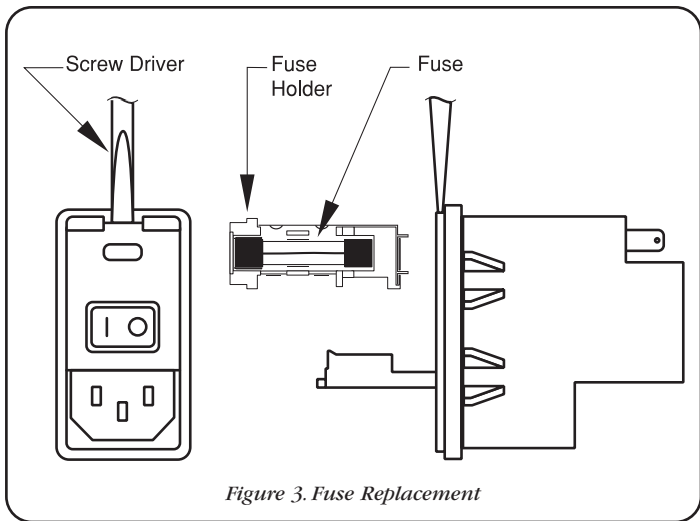

Figure 3. Fuse Replacement
6. Fuse Replacement. Turn off power, remove power cord from power module. Use straight blade screw driver, pry open access door. Remove fuse holder, remove fuse(s) from holder. Replace fuse(s) and fuse holder. For continued fire protection, replace fuse only with 250 V fuse of the specified type and rating. (3 AG 0.50 AMP SLO-BLO) (See Figure 3.)